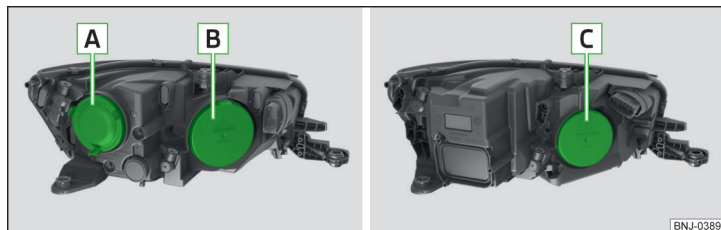

Fig. 285 Left headlight: Halogen / LED
Bulb arrangement » Fig. 285
- Remove the protective caps **A** or **B** » Fig. 285 on page 238.
- Use the protective caps **A** or **B** » Fig. 285 on page 238.
- Remove the protective caps B or C » Fig. 285 on page 238.
- Use the protective caps B or C » Fig. 285 on page 238.